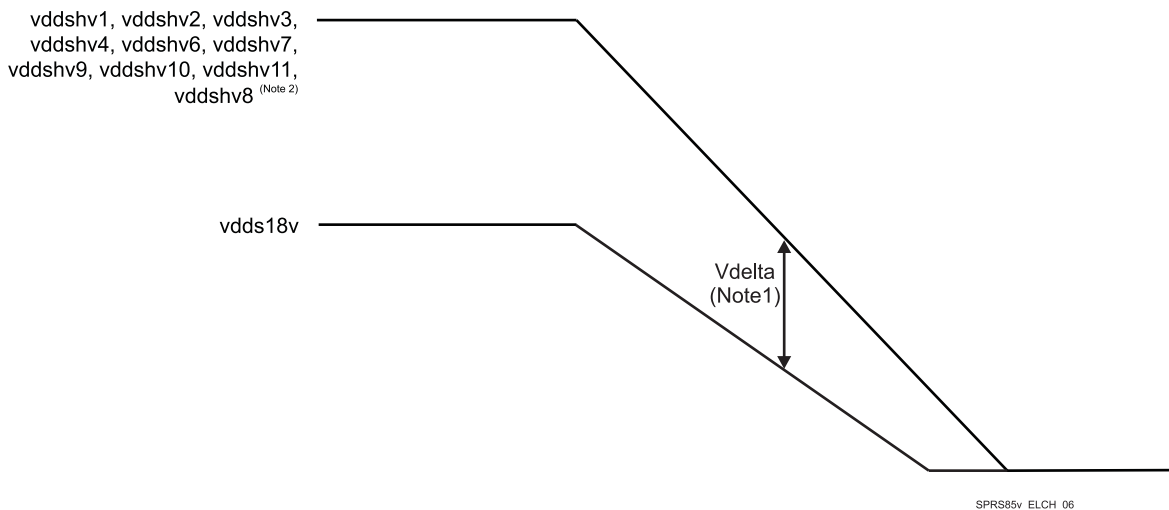
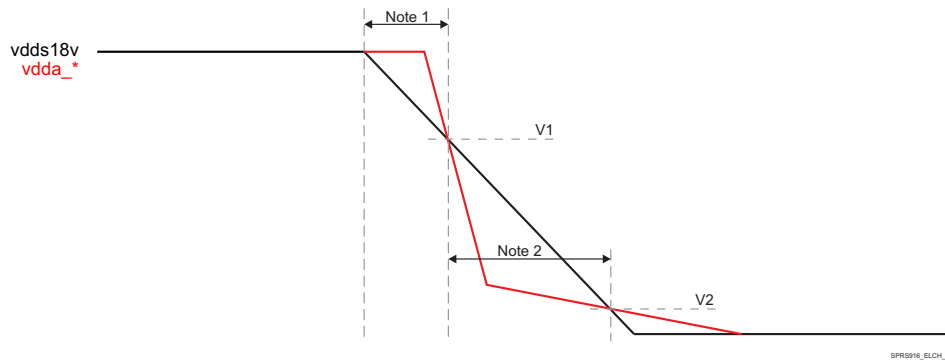
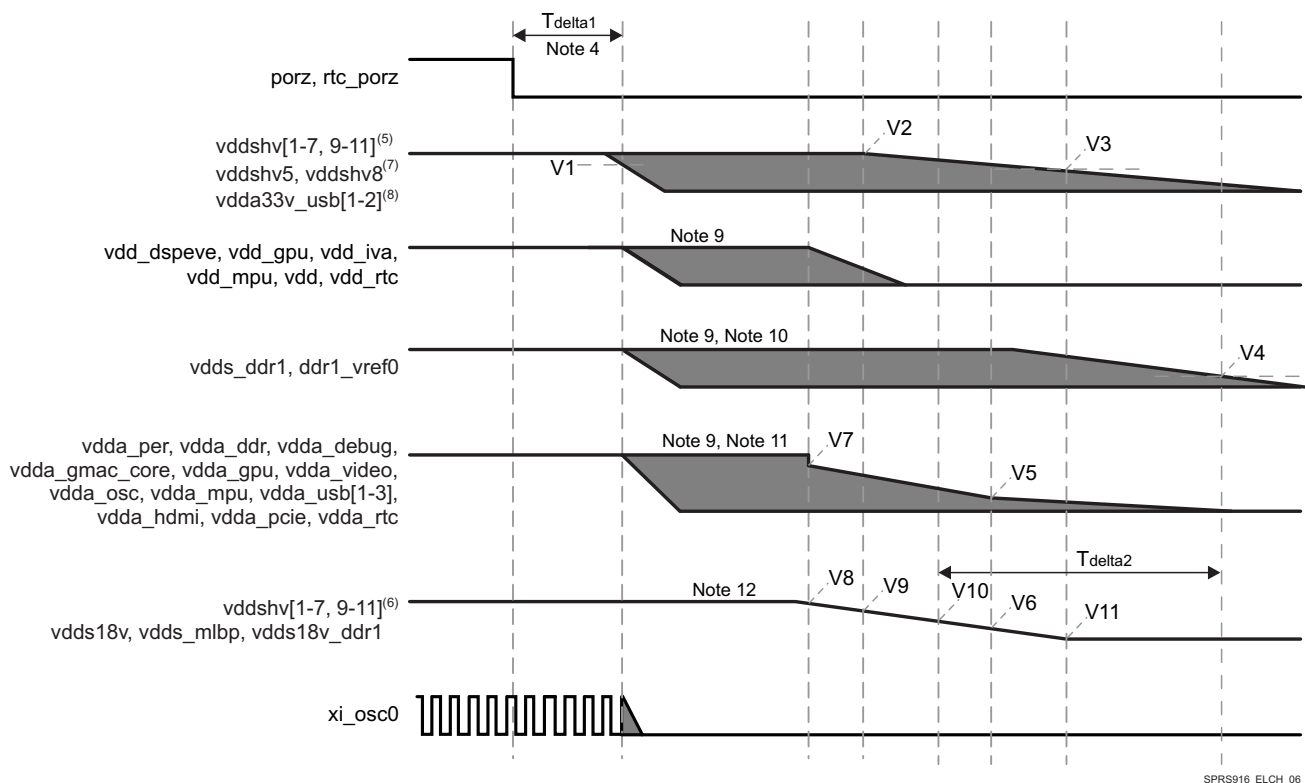

Figure 5-8. vdds18v versus vddshv[1-7, 9-11] Discharge Relationship
Figure 5-10. vdds18v and vdda_* Discharge Relationship⁽³⁾
Figure 5-11. Abrupt Power-Down Sequencing⁽¹⁾
- (3) General timing diagram items:
- (4) porz signals must be asserted low for 100 μ s min to ensure SoC is set to a safe functional state before any voltage begins to ramp down.
- (5) vddshv* domains supplied by 3.3 V:
- must not exceed vdds18v by more than 2 V during ramp down, see Figure 5-10 “vdds18v and vdda_* Discharge Relationship”.
- (6) vddshv* domains supplied by 1.8 V:
- (7) vddshv8 domain:
- (8) RTC domains (vddshv5, vdd_rtc, and vdda_rtc):
- (9) vdda_* domains:
- must satisfy the vdds18v and vdda_* Discharge Relationship (see Figure 5-10) if vdda_* disable point is later or discharge rate is slower than vdds18v.
- (10) vdda33v_usb* domains:
- (11) vdd_dspeve, vdd_gpu, vdd_iva, vdd_mpu domains can ramp down before or concurrently with vdd.
- (12) vdd can ramp down concurrently or after with vdd_dspeve, vdd_gpu, vdd_iva, vdd_mpu domains.
- (13) vdds_dds* domains:
- (14) vdds18v domain:
- must satisfy the vdds18v versus vddshv[1-7, 9-11] Discharge Relationship (see Figure 5-8) if vddshv* is operating at 3.3 V
Figure 5-8 describes vddshv[1-7,9-11] supplies falling before vdds18v supplies delta.
Figure 5-8 through Figure 5-11 and associated notes described the device abrupt power down sequence.
A "loss of input power event" occurs when the system's input power is unexpectedly removed. Normally, the recommended power-down sequence should be followed and can be accomplished within 1.5-2 ms of elapsed time. This is the typical range of elapsed time available following a loss of power event, see Section 7.3.7 for design recommendations. If sufficient elapse time is not provided, then an "abrupt" power down sequence can be supported without impacting POH reliability if all of the following conditions are met (Figure 5-11).